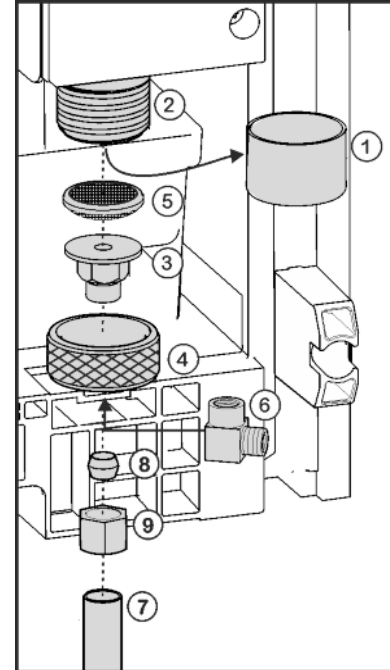

Fig. 18
- ▶ Remove the cap *Fig. 18 (1)* from the solenoid valve *Fig. 18 (2)*.
- ▶ Insert the coupler *Fig. 18 (3)* in the union nut *Fig. 18 (4)*.
- ▶ Insert the water filter *Fig. 18 (5)* with the recess pointing down towards the coupler *Fig. 18 (3)*.
- ▶ Lock the union nut *Fig. 18 (4)* onto the solenoid valve *Fig. 18 (2)* and tighten.
- ▶ To turn the water connection 90°, tighten the elbow connector *Fig. 18 (6)* if necessary.
- ▶ Connect the water supply *Fig. 18 (7)* (e.g. copper) with the aid of the clamp ring *Fig. 18 (8)* and nut *Fig. 18 (9)* to the coupler *Fig. 18 (3)* or elbow connector *Fig. 18 (6)*.